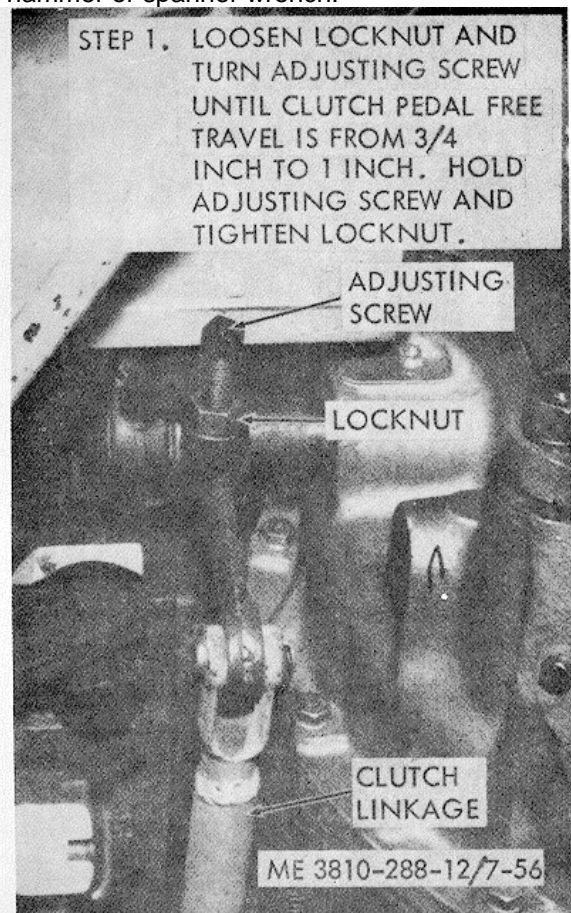

Figure 7-56. Clutch control, adjustment
(2) Refer to figure 7-56 and adjust the clutch pedal free travel.
(3) Depress the clutch several times and re-check the clearance specified in step (1) above.
(4) Hold the clutch pedal down while the sleeve locknut is turned up to the release lever spider and securely tightened.